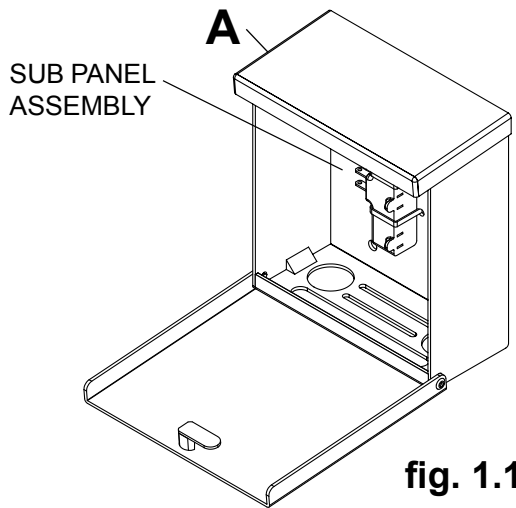
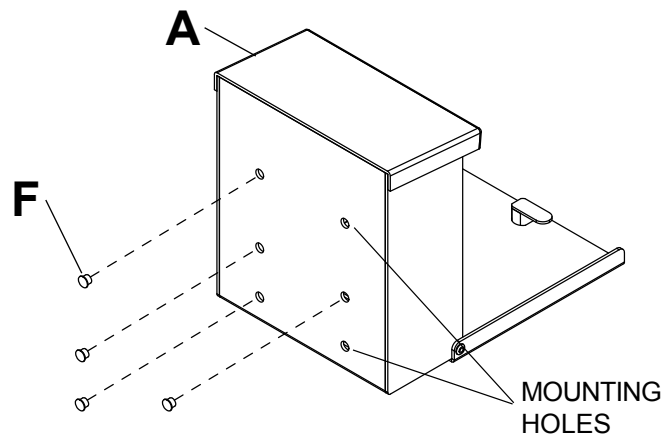

fig. 1.1
fig. 1.2
- 1 Open the wireless receiver enclosure (**A**) and remove the sub panel assembly as shown in fig. 1.1. Choose two holes for securing the wireless receiver enclosure (**A**). Press in plastic plug (**F**) into the four remaining holes shown in figure 1.2.